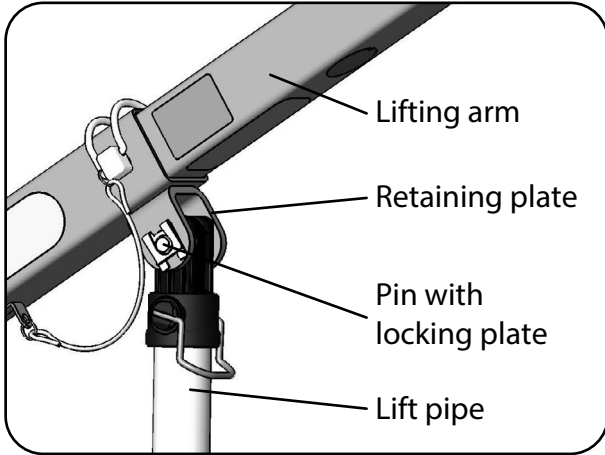

Fig.13.2.01 – Retaining plate on the lifting arm holder
2. Remove the locking plate and the pin that fastens the lift drive to the lifting arm holder's retaining plate (Fig. 13.2.01). Swivel the lift drive forwards and mount the pin with the locking plate on the retaining plate.